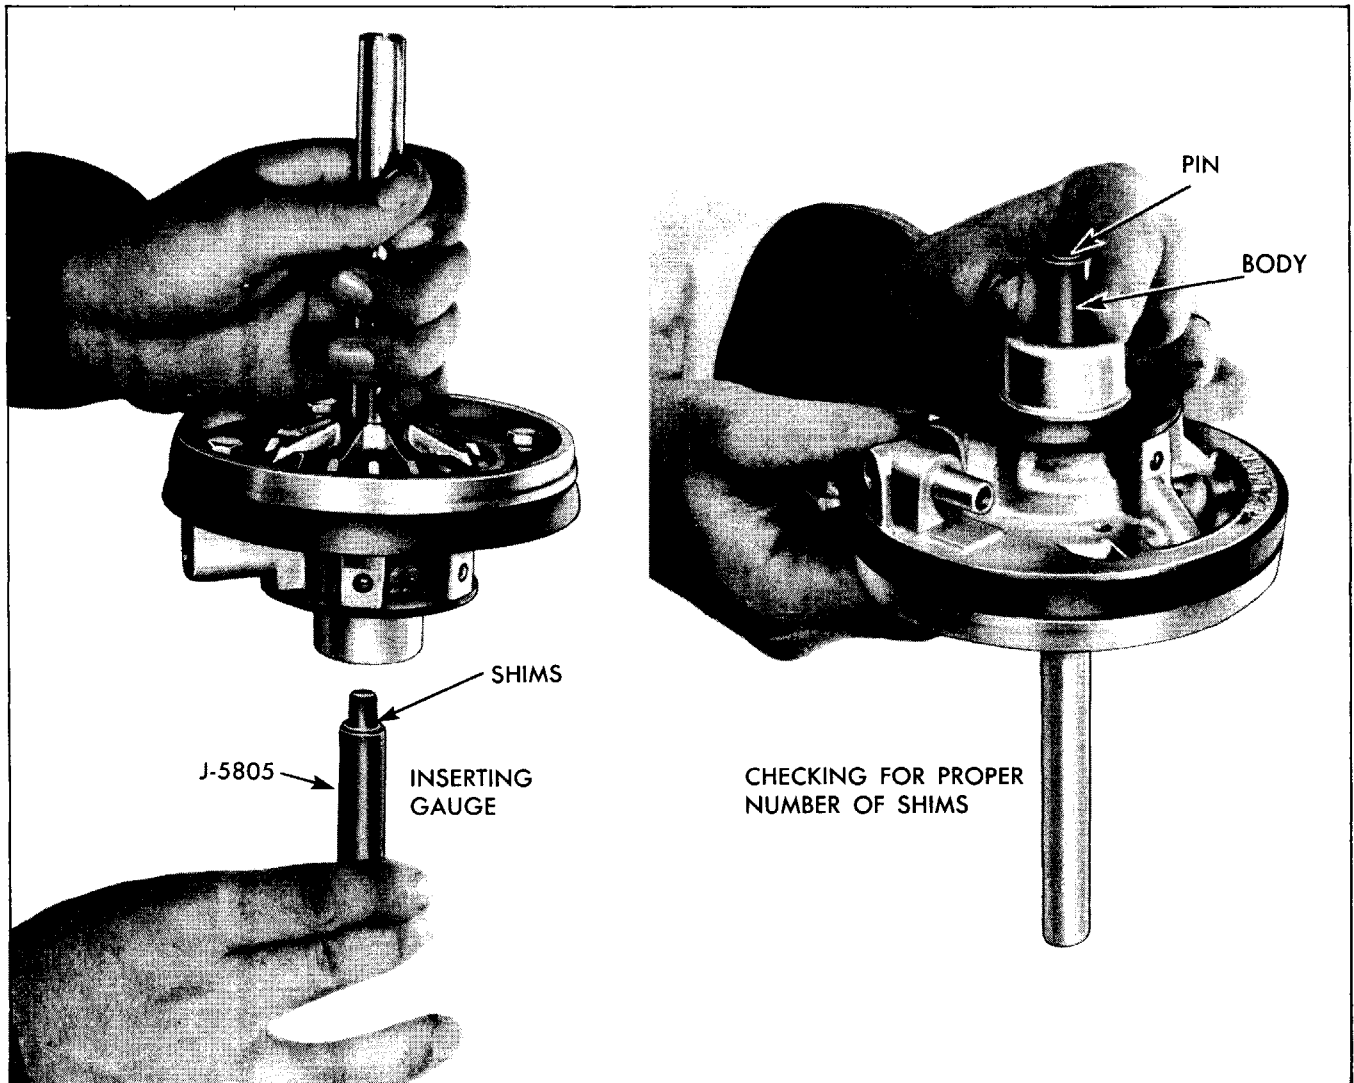

Fig. 5-68 Air Valve Shim Check
6. Place same number shims that were on air valve, on Tool J-5805. Invert power piston and insert gauge into bore of power piston (Fig. 5-68). Shims and body of gauge will rest on valve plate and pin will extend through hole in valve and rest on end of master cylinder plunger. Turn power piston over so gauge is on top (Fig. 5-68) and check position of pin in gauge body. Pin should be flush or slightly above gauge body. Remove or add shims until pin is flush or slightly above gauge body. Removing of shims will raise pin in gauge body and adding shims will lower pin in gauge body.